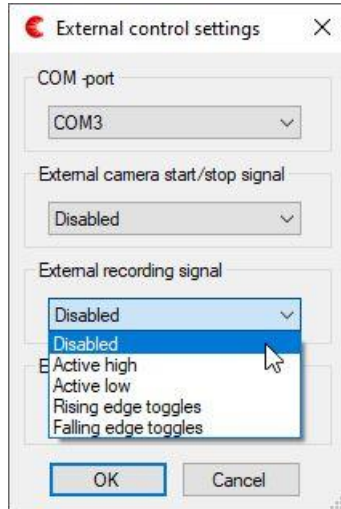

Fig. 6. Alternatives for external recording start/stop.
- External recording signal (Fig. 6)